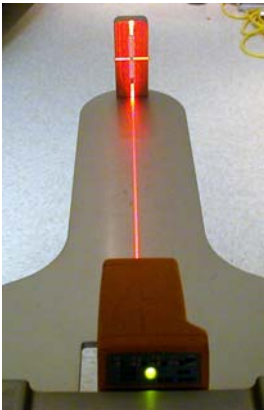

Figure 1-24 Laser Centering
- 11.) Use the locking screw on the bottom of the alignment bar to secure the laser to the bar, as shown in Figure 1-24. When done, the laser should fit snugly without moving on the mounting bracket.